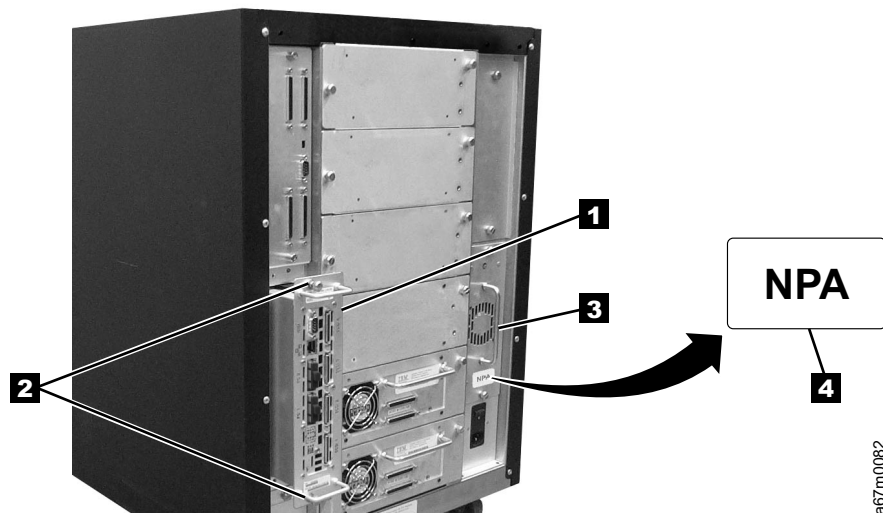

Figure 34. Installing a SAN Data Gateway Module
1. From the rear of the Ultrium Scalable Tape Library, locate the dc power supply (see **3** in Figure 34) and examine it for a label:
4. From the rear of the library, locate the slot where you want to install the gateway (see Figure 34). Loosen the two captive thumbscrews on the cover plate and remove the cover plate.
5. Slide the gateway into position (see **1** in Figure 34) and tighten the two captive thumbscrews **2**.